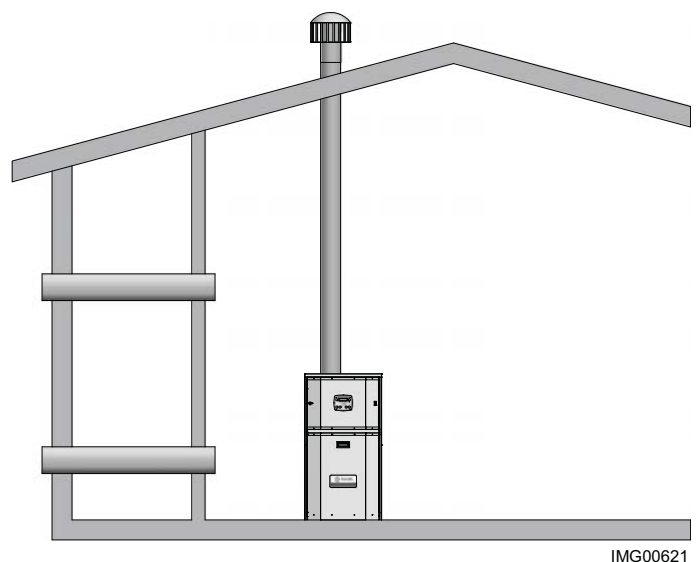

Figure 1-3_Combustion Air Through Ducts
2. If combustion and ventilation air is taken from the outdoors using a duct to deliver the air to the equipment room, each of the two openings should be sized based on a minimum free area of one square inch per 2000 Btu/hr (11 cm² per kW) of input (see FIG. 1-3).